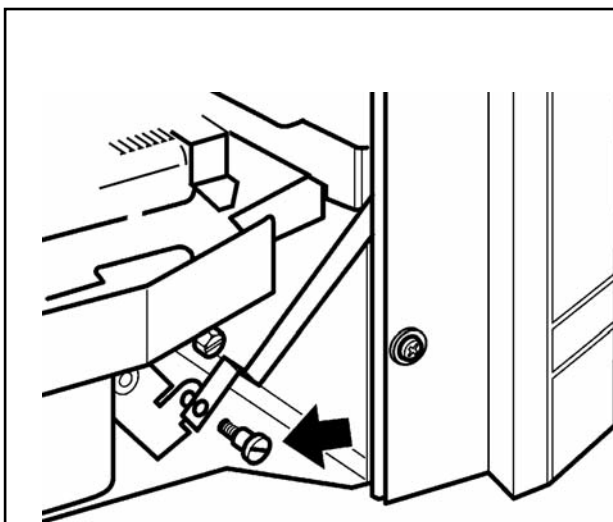

Figure 33. Control and pivot bracket
4. Align the hole near the bottom of the control linking bar with that in the control pivot bracket. Join them with the knurled shouldered screw (See figure 33). Make sure that the isolating valve is closed. Slide the control button fully from top to bottom and back to make sure that the slide and pivot mechanisms move smoothly. Note that some resistance should be felt when the slide button reaches the “burner fully on” position.